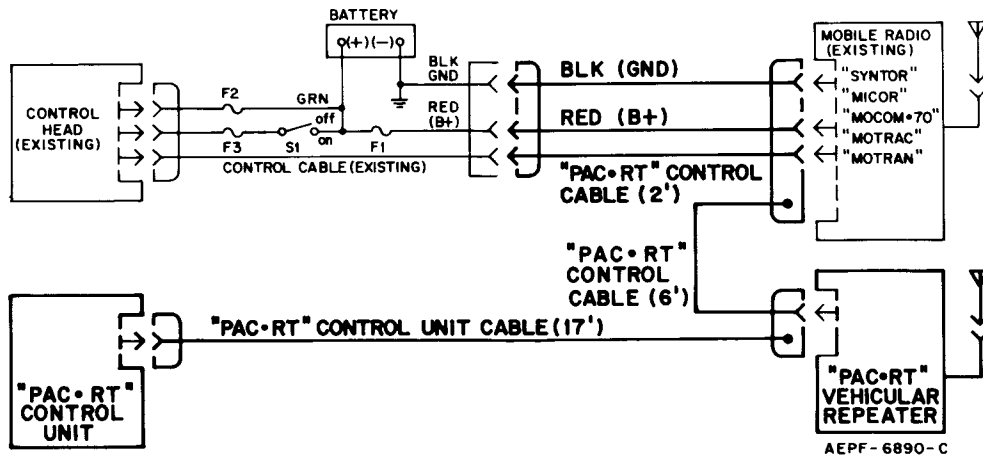
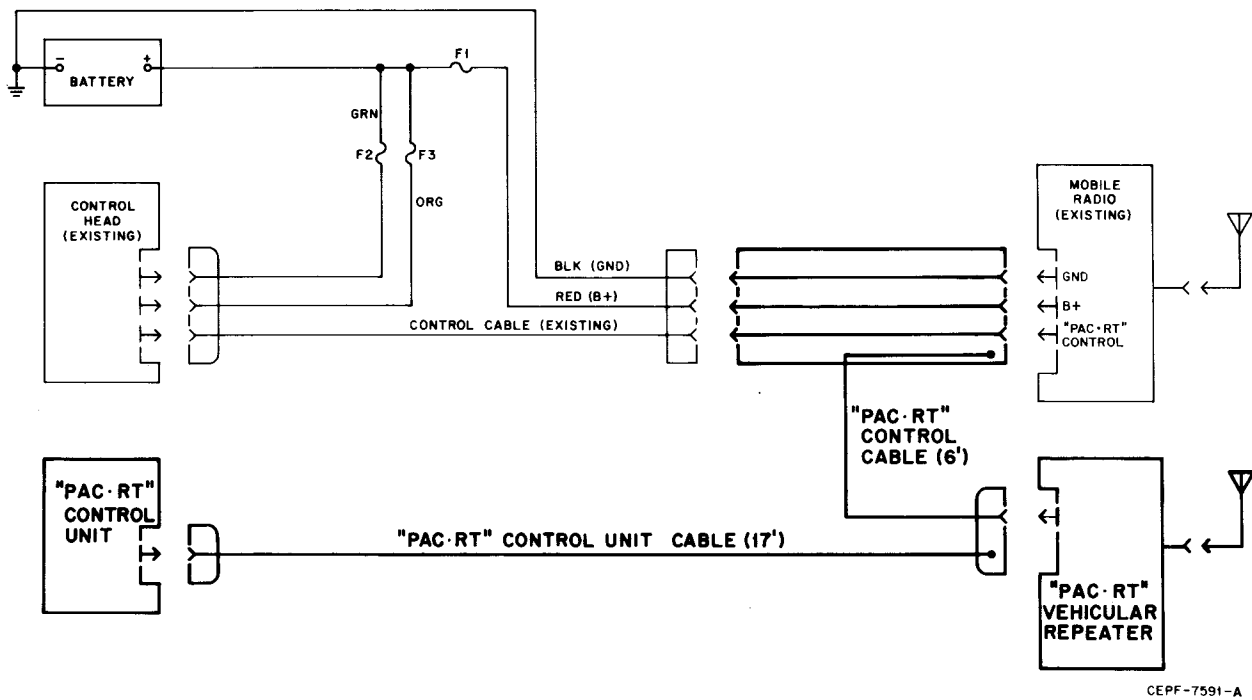

Figure 8
Figure 9.
Refer to Figure 8 or 9 for the interfacing of the cable assembly between the existing mobile radio and control head and the PAC•RT vehicular repeater and charger. Note the different cable lengths of the cable assembly being added; they will be used as a means of identification. Perform the following procedure:
- a. Disconnect the plug from the existing mobile radio and connect it to the male plug as shown in Figure 8 or Figure 9 for the specific mobile radio used. In Figure 8, the plug is on a two-foot piece of cable; in Figure 9, it is a feed-through connector.